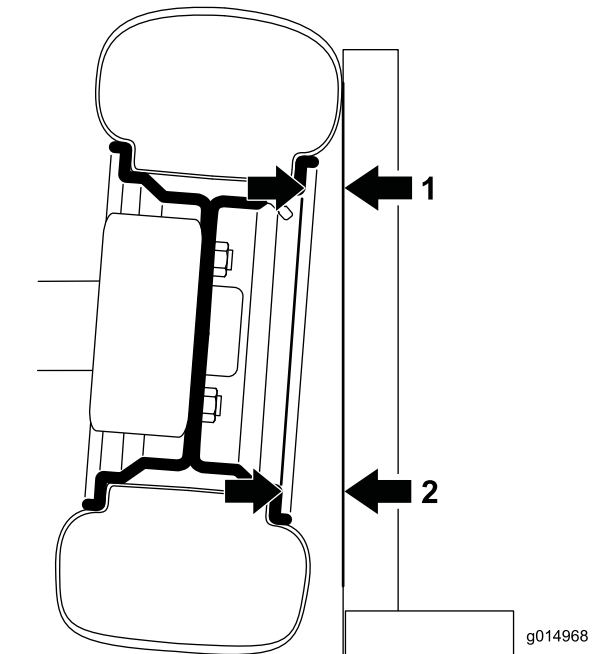

Figure 30
- To check the camber, place a 90 degree square on the ground with the vertical edge touching the face of the tire (Figure 30).
- Measure from the same part of the rim on the top and bottom of the tire to the square (Figure 30). The distance of the bottom measurement should be 0.09 inch (2.3 mm) larger than the top measurement. Complete the measurement on both front tires before adjusting.